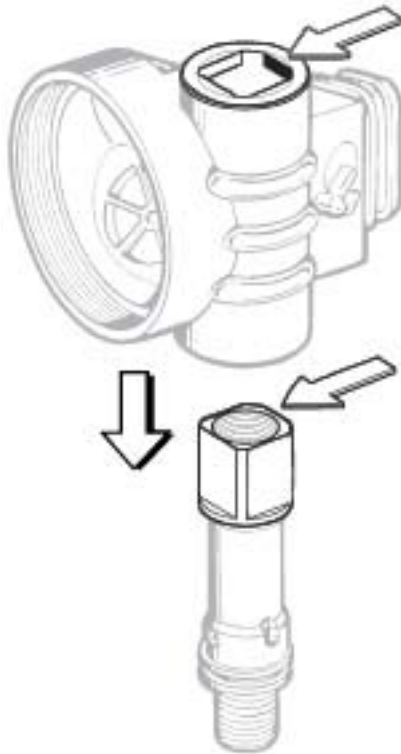

Figure 37 - Valve body & box bottom index
- Without disturbing the alignment of the poppet inside, stand the valve body vertically with the squared end facing up. While holding it secure in this position, closely examine the four flat surfaces to identify one which is slightly narrower than the others. Compare this feature to the squared opening in the box bottom to determine how these parts are indexed to fit together (see Figure 37).